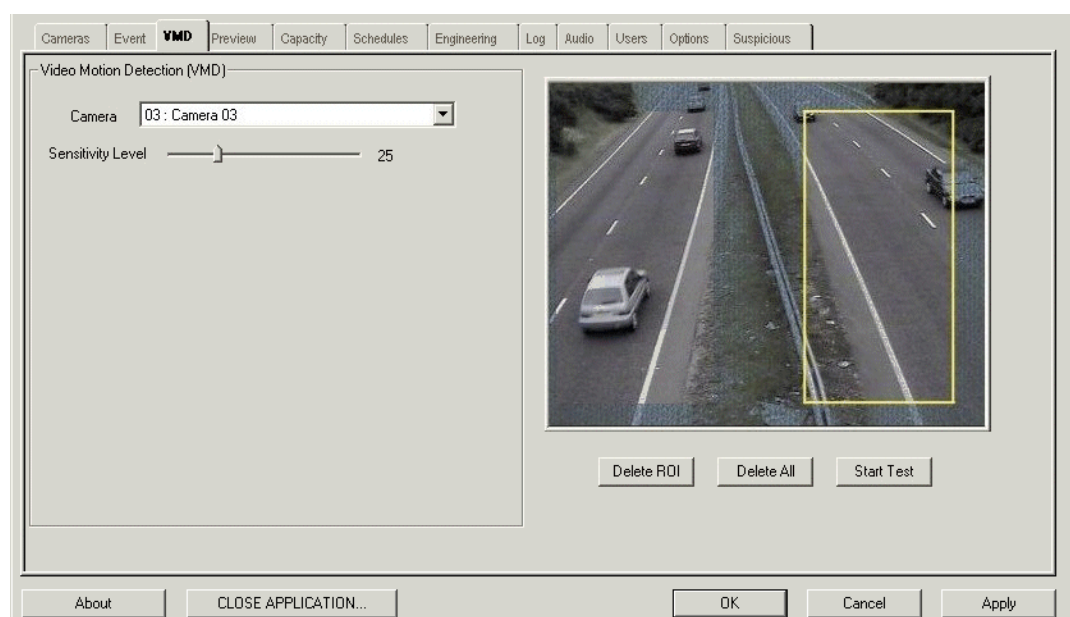

Figure 6-4: Drawing a VMD Region of Interest for a camera
1. Open the VMD menu of the Configuration Console as shown in Figure 6-4.